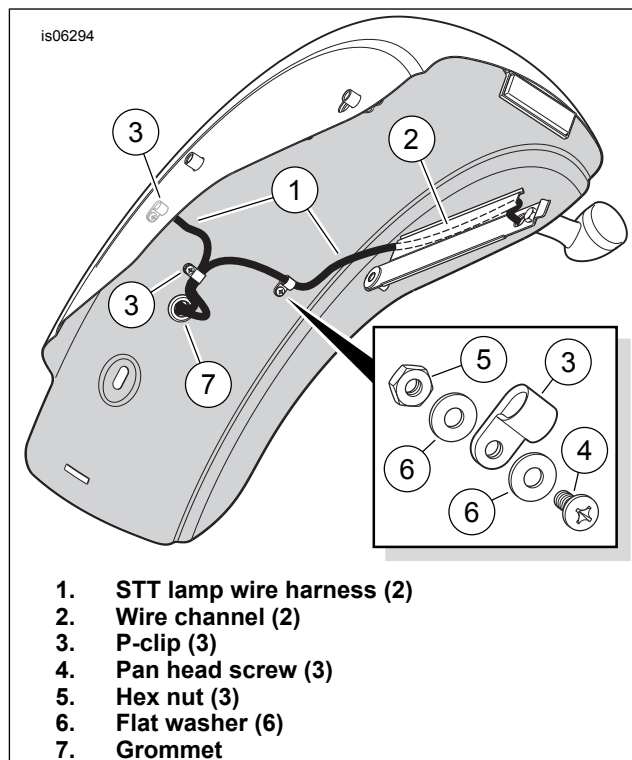

Figure 2. Rear Lamp Harness Routing
11. See Figure 2. Route the STT lamp wire harnesses (1) up and forward through the wire channels (2) on the fender mounting brackets as shown.
12. Assemble the P-clip wire retainers (3) to the harnesses in the orientation shown with the #8-32 machine screws (4), nuts (5) and washers (6) from the kit.